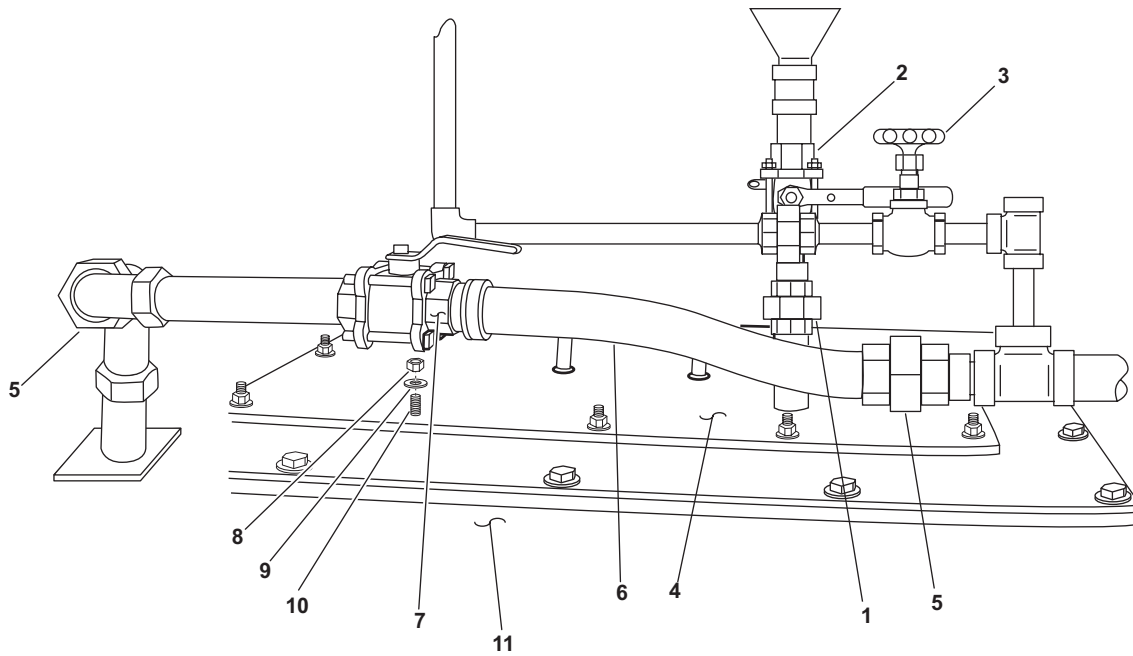
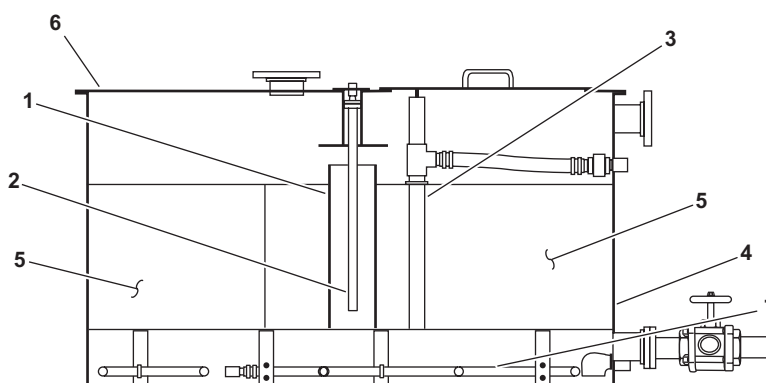

Figure 5. MSD Media Tank Inspection Cover Removal
Figure 7. MSD Media Tank Internal Components
3. Loosen the potable water pipe coupling (figure 5, item 1) and remove the potable water fill piping (figure 5, item 2) from the media tank inspection cover (figure 5, item 4).
5. CLOSE, lock out, and tag out (FM 55-502) CA-81 LP AIR SHUTOFF (figure 5, item 3).
7. Loosen the compressed air pipe couplings (figure 5, item 5) and remove the compressed air pipe (figure 5, item 6).
8. Remove the 12 nuts (figure 5, item 8) and 12 flat washers (figure 5, item 9) from the 12 studs (figure 5, item 10) in the media tank inspection cover (figure 5, item 4).
- Remove the media tank inspection cover (figure 5, item 4) from the media tank (figure 5, item 11).
- Inspect the airlift (figure 7, item 1) and airlift drop hose assembly (figure 7, item 2) for damage and corrosion.
- Inspect the spillover pipe assembly (figure 7, item 3) to make sure it is in place and not damaged.
- Use a hose and nozzle connected to a clean water supply not exceeding 75 PSI (5.1 bar) to clean the accumulated microorganisms from the tank walls (figure 7, item 4), airlift drop (figure 7, item 2), spillover pipe (figure 7, item 3), and media (figure 7, item 5).
- Clean all of the silicone from the media tank inspection cover (figure 5, item 4) and the media tank (figure 5, item 11).
- Connect the compressed air pipe (figure 5, item 6) and tighten the compressed air pipe couplings (figure 5, item 5).
5. Ensure that the water level in the media tank (figure 7, item 6) is at the top of the airlift (figure 7, item 1) approximately 3 inches (76 mm) above the media (figure 7, item 5).
7. Verify that air bubbles appear in the water within the tank indicating that the air scour (figure 7, item 7) is operating properly. If air bubbles are not present in the water, perform the Disassembly, Cleaning and Inspection portion of this procedure until the accumulated sludge over the air scour has been removed and air bubbles are present in the water. Once it has been determined that the air scour is operating properly, continue with the procedure.
9. Apply a continuous 1/4 inch (6 mm) bead of silicone compound (sealant) on the opening of the media tank (figure 7, item 6). Circle each bolt hole in the media tank inspection cover (figure 5, item 4) with a 1/8 inch (3 mm) bead of silicone compound.
10. Install the media tank inspection cover (figure 5, item 4) on the media tank (figure 5, item 11) and secure it with the 12 flat washers (figure 5, item 9) and 12 nuts (figure 5, item 8).
11. Connect the potable water fill piping (figure 5, item 2) to the media tank inspection cover (figure 5, item 4) and tighten the potable water pipe coupling (figure 5, item 1).